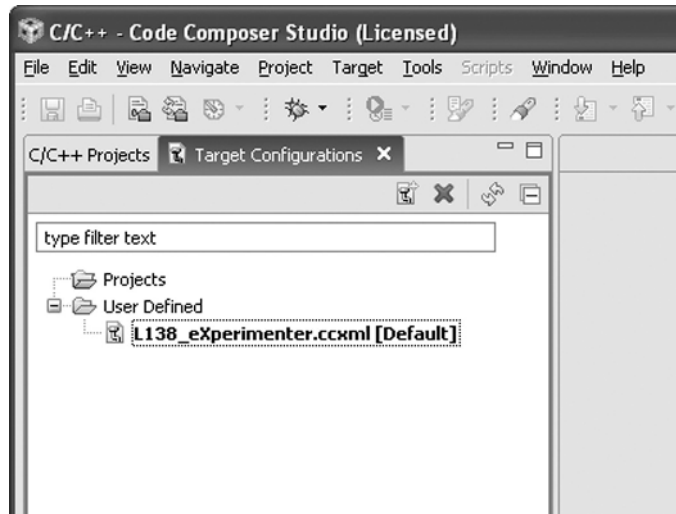

Figure 1.8 *Target Configurations* view following selection of default target configuration file `L138_experimenter.ccxml`.
- (9) Copy the target configuration file `L138_eXperimenter.ccxml` from `c:\eXperimenter\L138_support` to the default location used by the Code Composer Studio IDE for target configuration files, that is, `c:\Documents and Settings\YOUR_ID\user\CCSTargetConfigurations` if you are using Window XP, or `c:\User\Your_ID\user\CCSTargetConfigurations` if you are using Windows 7.
- (10) Copy file `C6748.gel` from folder `c:\eXperimenter\L138_support` to `c:\Documents and Settings\YOUR_ID\user\CCSTargetConfigurations` if you are using Window XP, or `c:\User\Your_ID\user\CCSTargetConfigurations` if you are using Windows 7. This general extension language (GEL) script is run every time you *Connect to Target* in the debugger and carries out a number of important initialization procedures on the eXperimenter.
- (11) In the C/C++ perspective, select *View > Target Configurations*, right-click on `L138_eXperimenter.ccxml`, under *User Defined* and select *Set as Default*. The *Project View* window should then appear as shown in Figure 1.8.